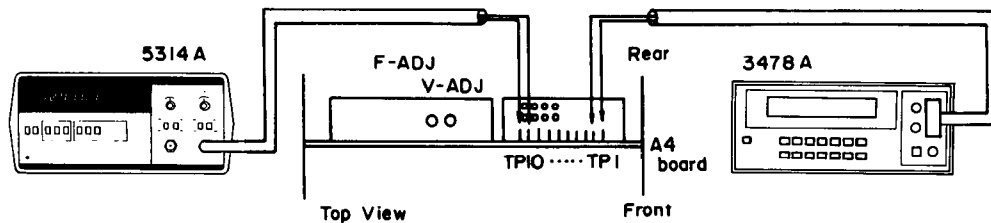

Figure 5-1. DC Power Supply Adjustment Setup.
1. Connect the HI lead of the 3478A to A4TP1 (+5 DIG) and the LO lead to A4TP2 (DIG GND) as shown in Figure 5-1
6. Disconnect the 3478A and connect the 5314A to A4TP9 (DIG PWM) and TP10 (GND) using a 1 : 1 probe as shown in Figure 5-1.